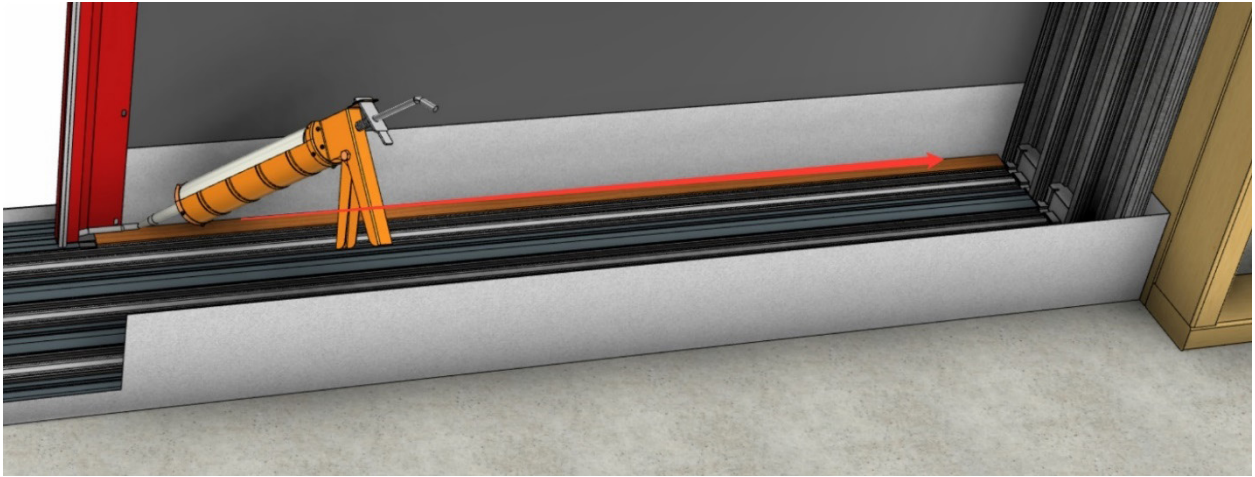

Fig PKT 9
- Before installing the first panel, seal the front of the sill to the back of the exterior pocketing wall (Fig. PKT 9).